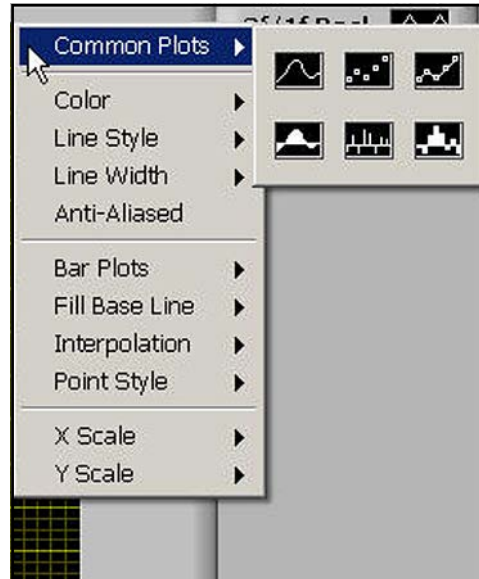

Figure 43: Options for Graphing Data
2. If you right-click on any series of data within the graph, or you click on the current parameter being-trended item in the legend, you will see a variety of options for graphing data (see *Figure 43* below). You can change to a variety of common plots and adjust color, line style, and line width. For some data sets with lots of finite points, you may want to click Anti-Aliased which will smooth the plot line. You can also change bar plots, fill base line, interpolation and point style. X-Scale adjusts the x-scale. Y-Scale adjusts the y-scale and enables the secondary y-axis.